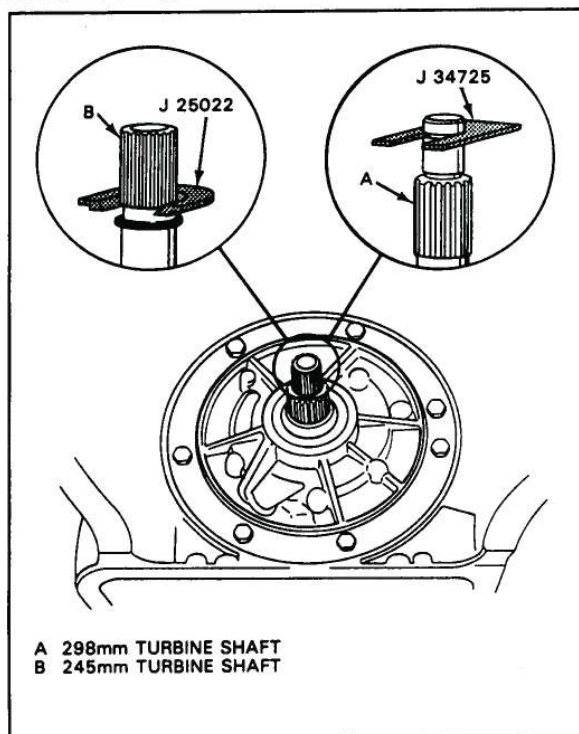

Figure 61
2. Install J-25022 adapter, or J-34725 adapter (Figure 61) onto the turbine shaft as shown in Figure 61.